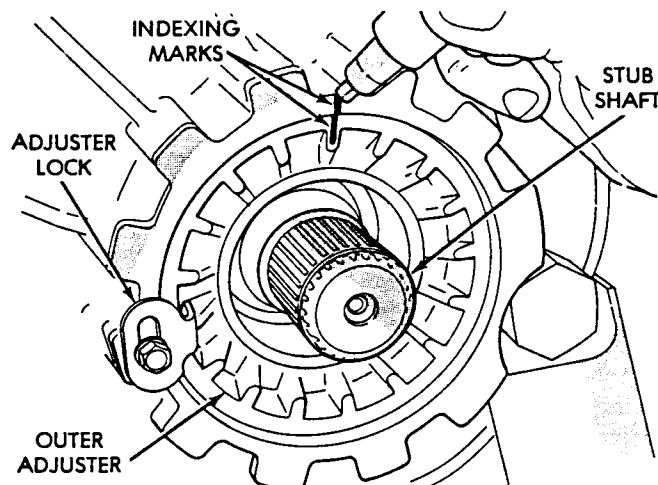

Fig. 19 Indexing Outer Adjuster
(6) Index outer adjuster (Fig. 19). Remove lock bracket and back out adjuster exactly one revolution. Then remove differential cover.